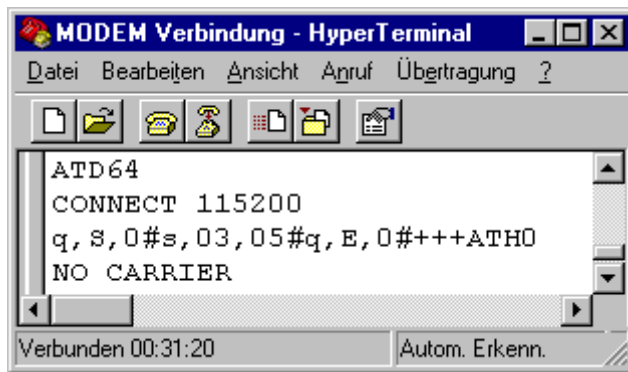

figure 14: HyperTerminal: terminate connection
- The termination of a connection should always be realized by the defined protocol (see section 2.1.5). To do so enter the command „E,1#“. The grabbMODUL-4 on the remote side first sends the acknowledgement and then after approx. 1.1s (Guard Time) it switches to the command mode („+++“) and the connection is terminated („ATH0“ is not always echoed back !). This will be displayed on the PC/modem side by „NO CARRIER“ (see figure 14). The line is now ready for a new connection.